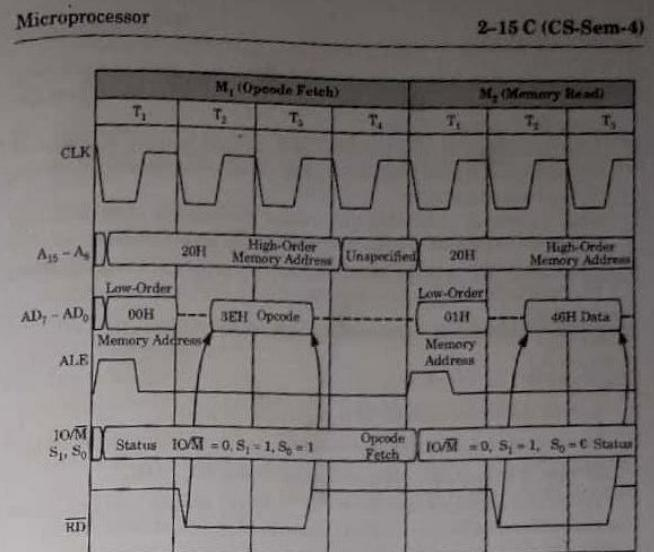

Fig. 2.9.1. 8085 Timing for execution of the instruction MVI A, 46H.
3. The first machine cycle is Opcode Fetch and the second machine cycle is Memory Read, as shown in Fig. 2.9.1.